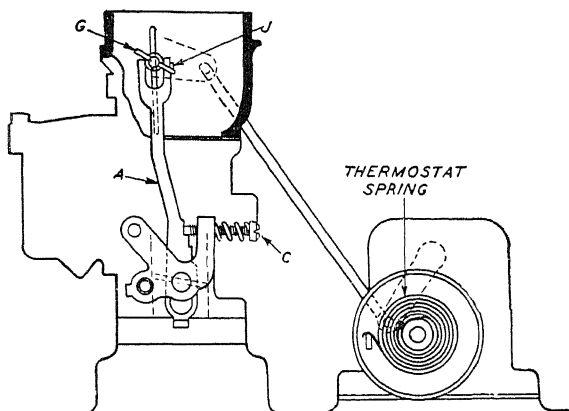

Fig. 159. Slow Idle Control
**Engine Hot or Cold—Slow Idle.** The slow and fast idle, Fig. 159, on the eight cylinder carburetor is controlled through the